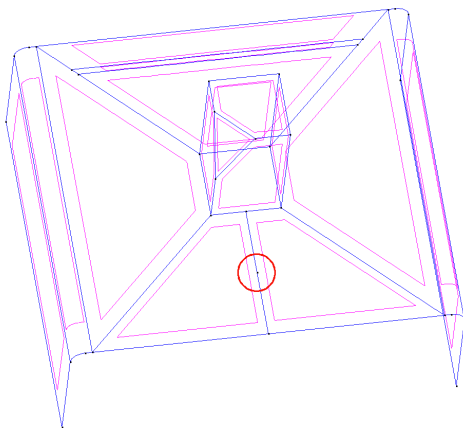

Figure 4. Geometry of the model. The point around which the mesh will be concentrated.
- 2 . Select the point indicated in Figure 4. Press **ESC** ⁴ to indicate that the selection of points is finished, and **Close** the window.